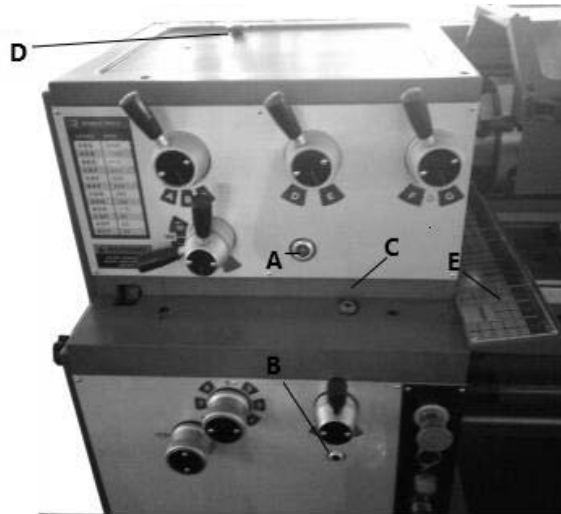
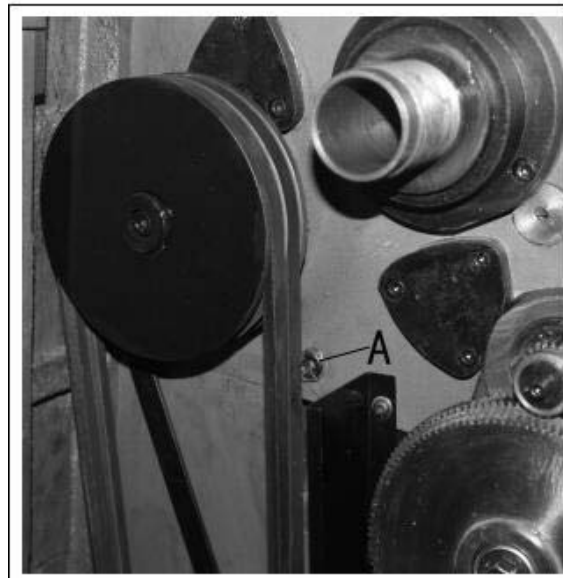
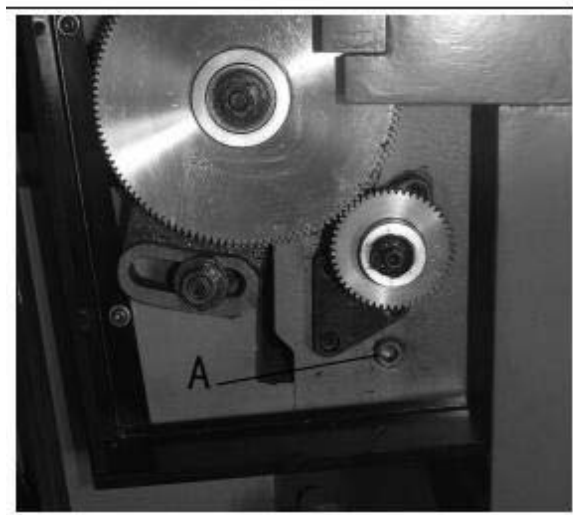

Figure 4
Figure 5
Figure 6
1. **Headstock** – Oil must be up to indicator mark in oil sight glass (A, Fig. 4). Top off with Mobil DTE® Oil Heavy Medium. Fill by pulling plug (D, Fig. 4). To drain, remove drain plug (A, Fig. 5) with an 8mm hex wrench. Drain oil completely and refill after the first month of operation. Clean out any metal shavings. Then, change oil in the headstock annually.
2. **Gearbox** – Oil must be up to indicator mark in oil sight glass (B, Fig. 4). Top off with Mobil DTE® Oil Heavy Medium. Fill by lifting off thread chart cover (E, Fig. 4) and remove plug (C, Fig. 4) with an 8mm hex wrench. To drain, remove drain plug (A, Fig. 6) with an 8mm hex wrench. Drain oil completely and refill after the first month of operation. Then, change oil in the Gearbox annually.